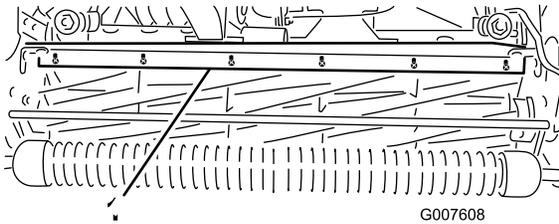

Figure 52
- Loosen the screws securing the top bar (Figure 52) to the cutting unit.